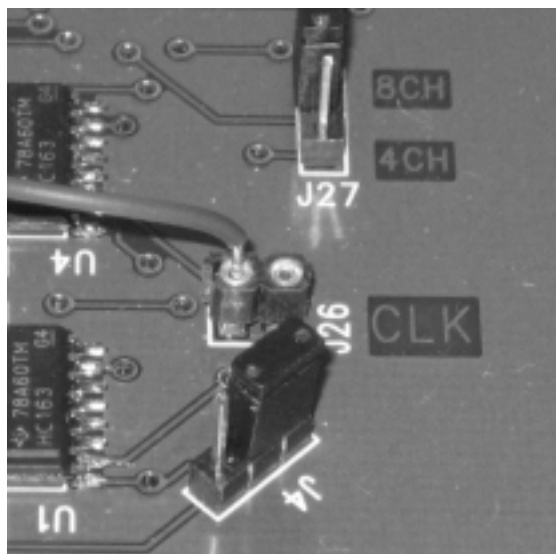

Figure 18: Photo illustrating the Demultiplexer clock socket to connect to the Multiplexer clock socket.
*Note: Depending on whether you are using the bit-comparison circuitry or not, there are some jumpers that need to be set. See Figure 18 to view the difference. In the current (upper) position the bit comparison circuit is not being used. Also, you can see on the board that the trace connected to the reset command (lower) pin is unconnected; the upper pin is +5V.*